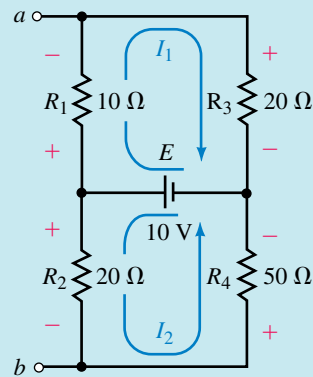

FIGURE 9-23
Step 5: The open-circuit voltage between terminals *a* and *b* is found by first indicating the loop currents I_1 and I_2 in the circuit of Figure 9-23.